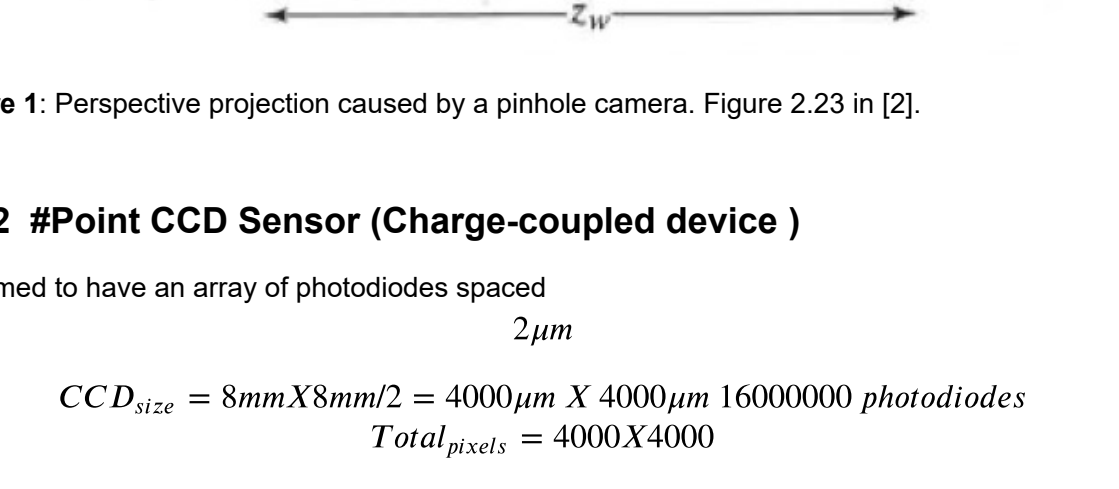

Figure 1: Perspective projection caused by a pinhole camera. Figure 2.23 in [2].
b) Use the imaging model shown in Figure 1. The camera has a lens with focal length  $f = 40\text{mm}$  and in the image plane a CCD sensor of size  $8\text{mm} \times 8\text{mm}$ . The total number of pixels is  $4000 \times 4000$ . How many lines per mm will this camera resolve at a distance of  $z_w = 1\text{m}$  from the camera center?